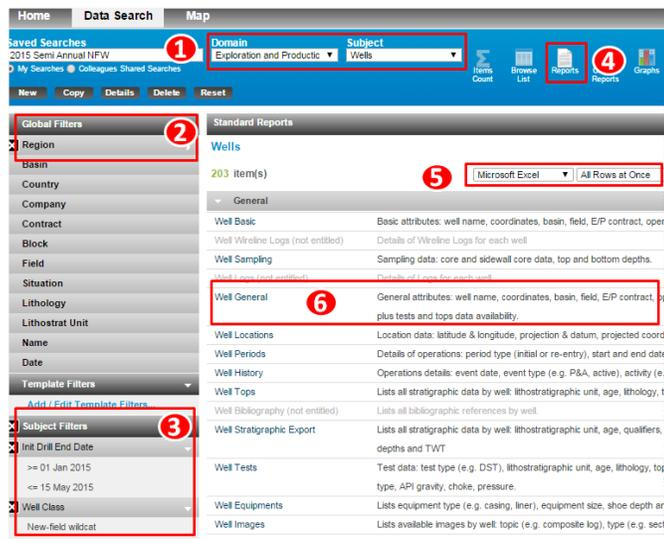

Fig 1-1: Search Wells in EDIN
- (1) Run EDIN and Start A New Data Search (Fig 1-1).
- (2) Set **Global Filters**: check on all **Regions**.
- (3) Set **Subject Filters** and click **Add/Edit Subject Filters**.
- (4) Use **Reports** function by clicking on the icon.
- (5) Set output format as **Microsoft Excel** and **All Rows at Once**.
- (6) Choose **Well General** template by clicking on the title, which will save certain well attribute info locally into Excel for further analysis.